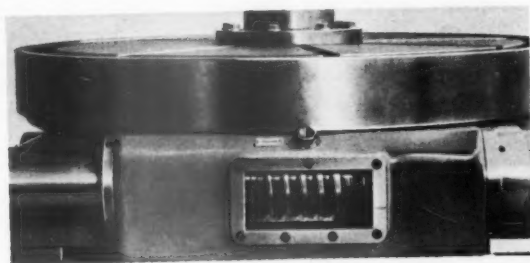

Fig. 15
(3) A simple but very effective solution for eliminating backlash by maintaining correct tooth contact is represented by the "*DUAL-LEAD WORM*" (Figs. 15 and 16). By axially adjusting this type of worm, the backlash is controlled without disturbing the centre distance and without affecting the transmission of uniform motion. Furthermore, the backlash is uniform along the line of action in any adjusted axial position of the worm.